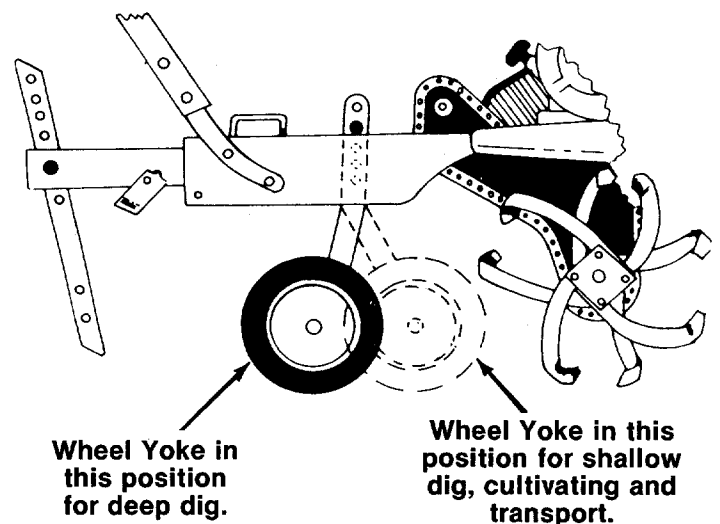

FIGURE 16.
- Wheel Yoke Adjustment:** Place wheel yoke so that the wheels are forward (nearest point between wheels and tines) for shallow tilling, cultivating and transport. This will increase the forward speed. See figure 16. Turn yoke around (farthest point between wheels and tines) for deep tilling. Forward speed will decrease. See figure 16.